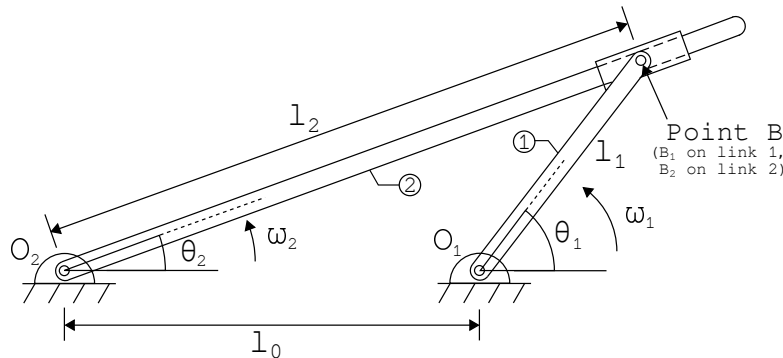

Figure 1: Sliding contact linkage
1. [20 points] Referring to Figure 1, let $l_1 = 35$, $l_0 = 50$, and $\theta_2 = \frac{\pi}{12}$. Find θ_1 and l_2 .